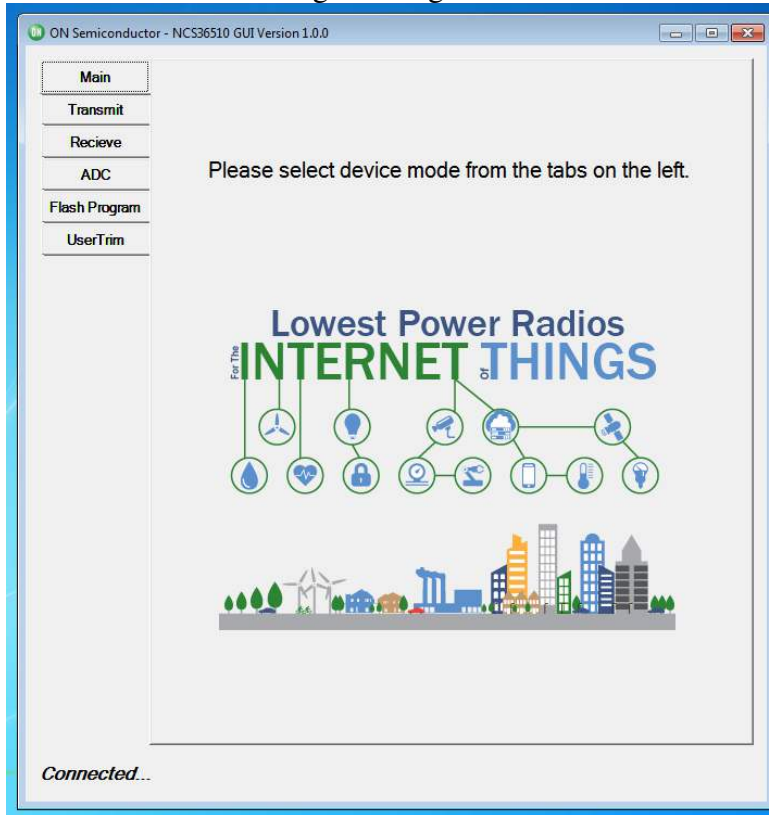

Figure 8: Flash Program Exists
- I. After the boot up process has been finished and the application has been properly flashed. The NCS36510 GUI should open up automatically, refer to figure 8 to see how the Main interface that should pop up after the application has restarted. If it does not then follow step 2 in the “Boot Up” section in order to start the GUI.